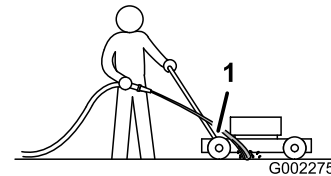

Figure 37
3. Hold the running garden hose at handle level and direct the water to flow on the ground just in front of the **right** rear wheel (Figure 37).